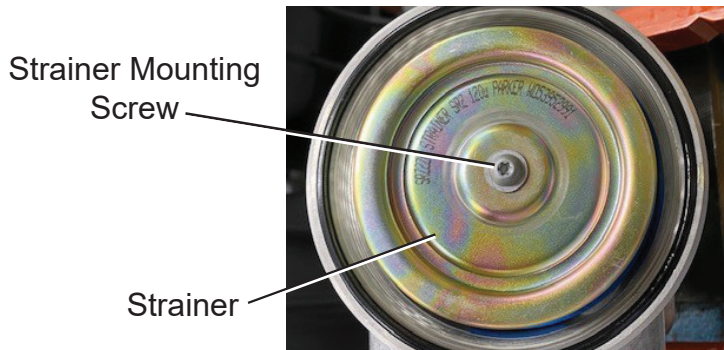

Figure 3 - Strainer Mounting Screw
6. Locate the strainer mounting screw, see Figure 3.